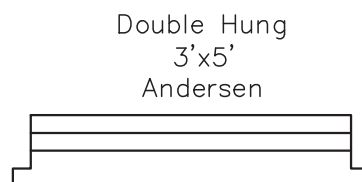

Fig. 36-8
**ATTEDIT**, short for “attribute edit,” allows you to edit attributes in the same way as you edited the size attribute of the double-hung window. Your drawing should currently look similar to the one in Fig. 36-8. The exact location of the attributes is not important.